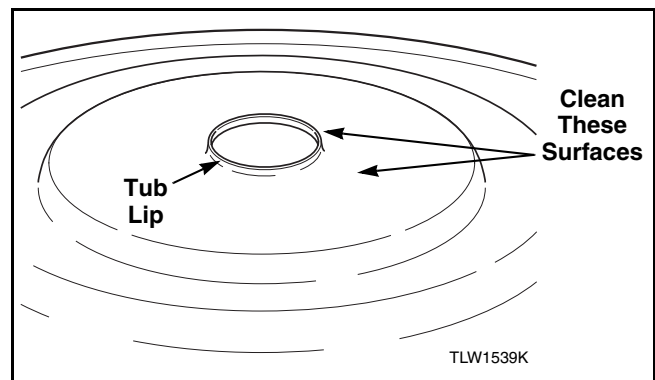

Figure 51
- v. Make sure all sealant and other foreign material has been removed from the inside of tub. Use a wire brush or lacquer thinner to remove any remaining material from around tub lip. Refer to *Figure 51*.